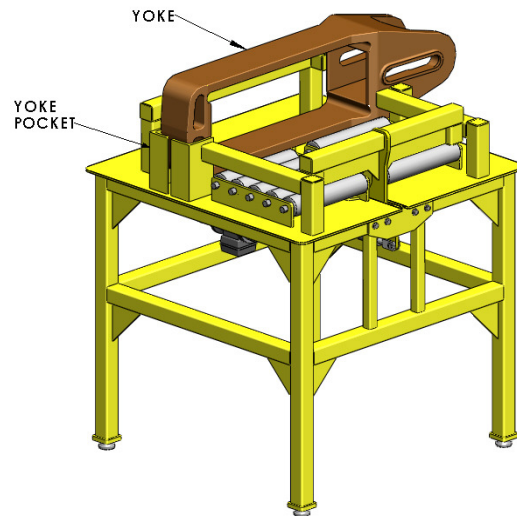

FIGURE 2
2. Using either a crane or a forklift equipped with a lifting hook, place a yoke into the table yoke pocket. The yoke must be upright and in the horizontal position before placement. Do not attempt to rotate or position the yoke once it has been placed on the table (Figure 2).